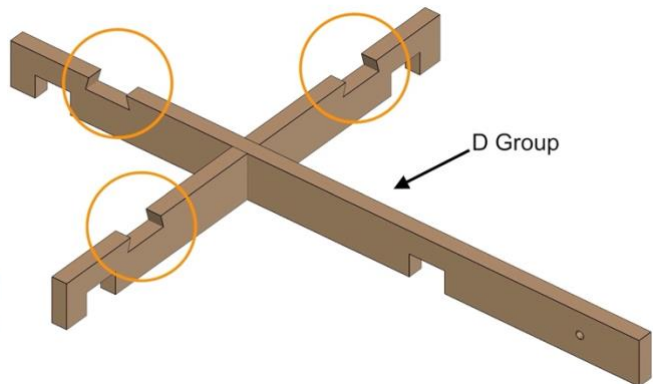

Fig. 32
- *Fig. 32* shows the completed process.